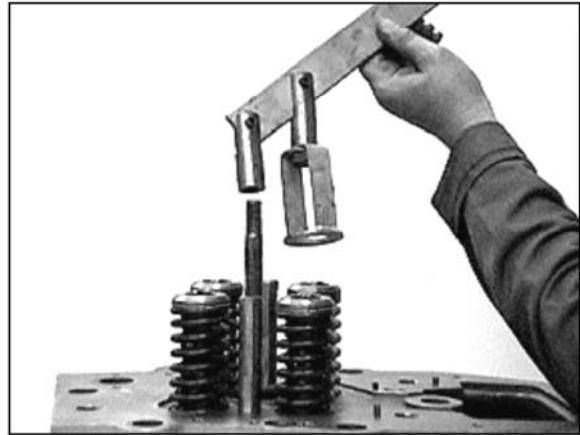

Fig.8 Fit the pivot socket to the stud.
2. Screw the pivot socket onto the stud (**Fig.8**).